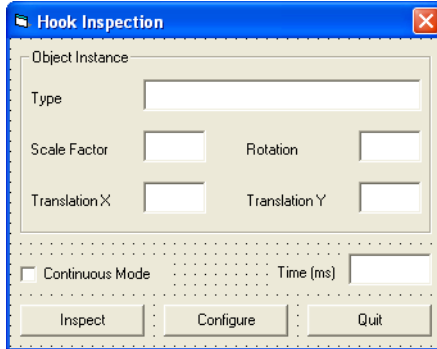

Figure 47 Visual C++ Dialog with Command Buttons
5. Add a check box named **IDC_CHECK_CONTINUOUS**, and set its caption to **Continuous Mode**. Finally, add an edit box named **IDC_EDIT_TIME** and an appropriate label. Place everything to resemble Figure 47